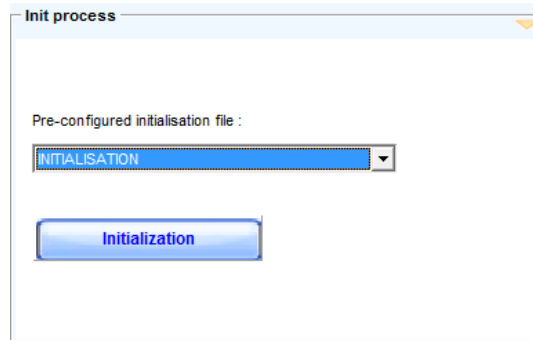

Figure 4: Initialisation button
- Initialise the equipment (See Figure 4)